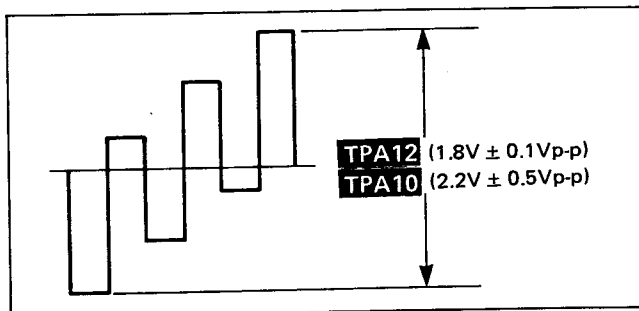

Fig. 30
- Connect an oscilloscope between **TPA12** and chassis GND. When adjust Sub colour VR (R629) to achieve  $1.8V \pm 0.1V_{p-p}$  on the oscilloscope as shown in Fig. 30